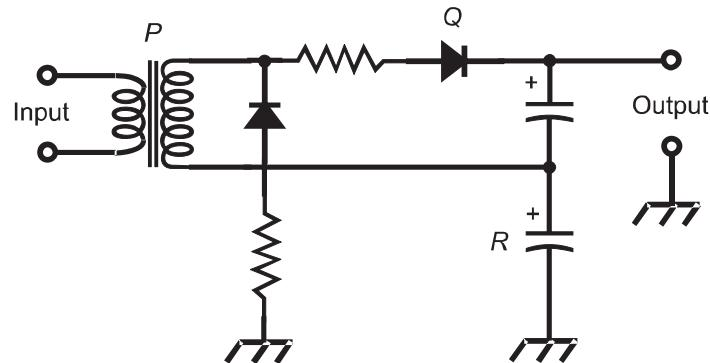

Fig. Exam-3. Illustration for Final Exam Questions 29 through 32.
29. Figure Exam-3 is a schematic diagram of
30. In the circuit of Fig. Exam-3, what is the function of the component labeled P?
31. In the circuit of Fig. Exam-3, what is the function of the component labeled *Q*?
32. In the circuit of Fig. Exam-3, what is the function of the component labeled *R*?